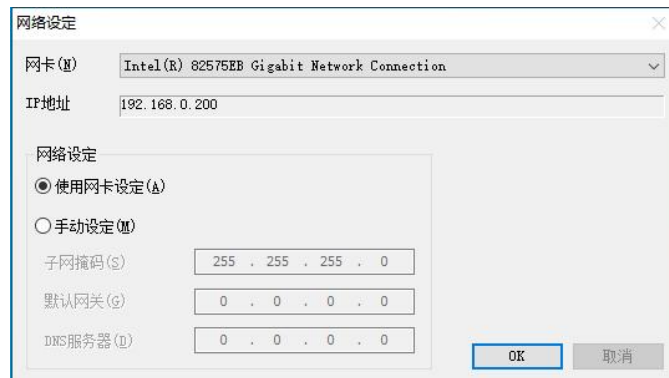

Figure 4-13
- As shown in Figure 4-13, open the "IP Setting Tool" software and select the network card currently in use.